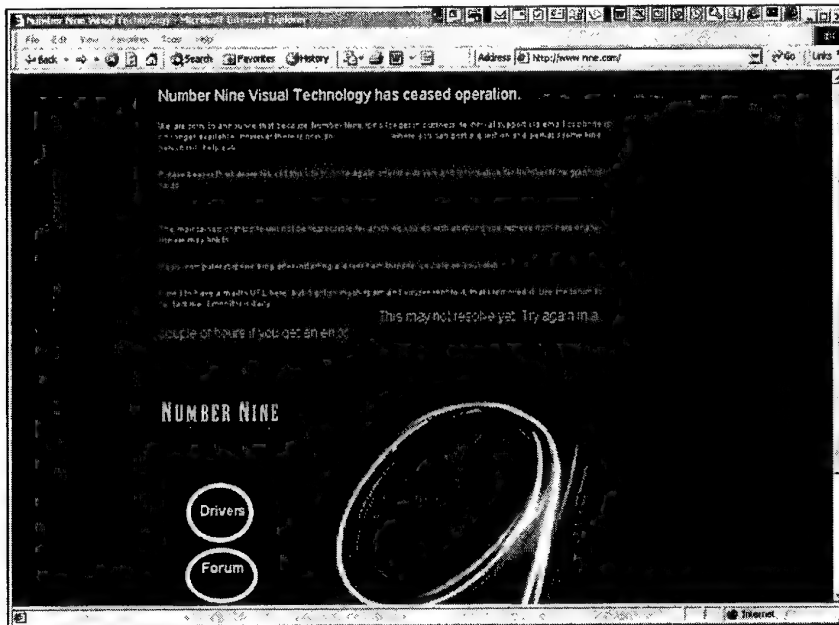

Figure 89 The Number Nine web page, with the Drivers and Forum icons highlighted by yellow ellipses.
1. Go to the Number Nine web page <http://www.nine.com> (see Figure 89 for an example of the layout).
8. Any queries regarding the Hawkeye software can be directed to the Forum site at Number Nine web site (see Figure 89).